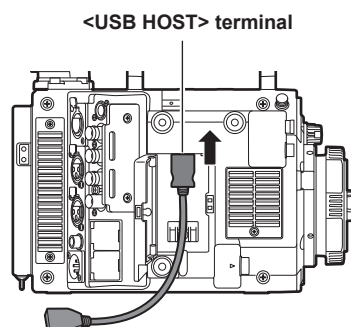

Fig. 2
- 2** Attach the USB 2.0 extension cable to the <USB HOST> terminal. (Fig. 2)